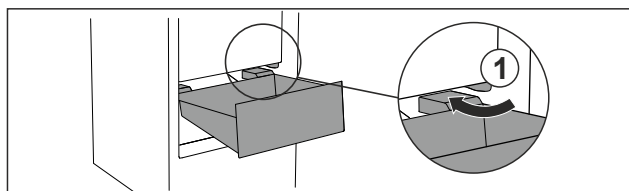

Fig. 29
- ▶ Guide drawer in at an angle around the stoppers Fig. 29 (1).